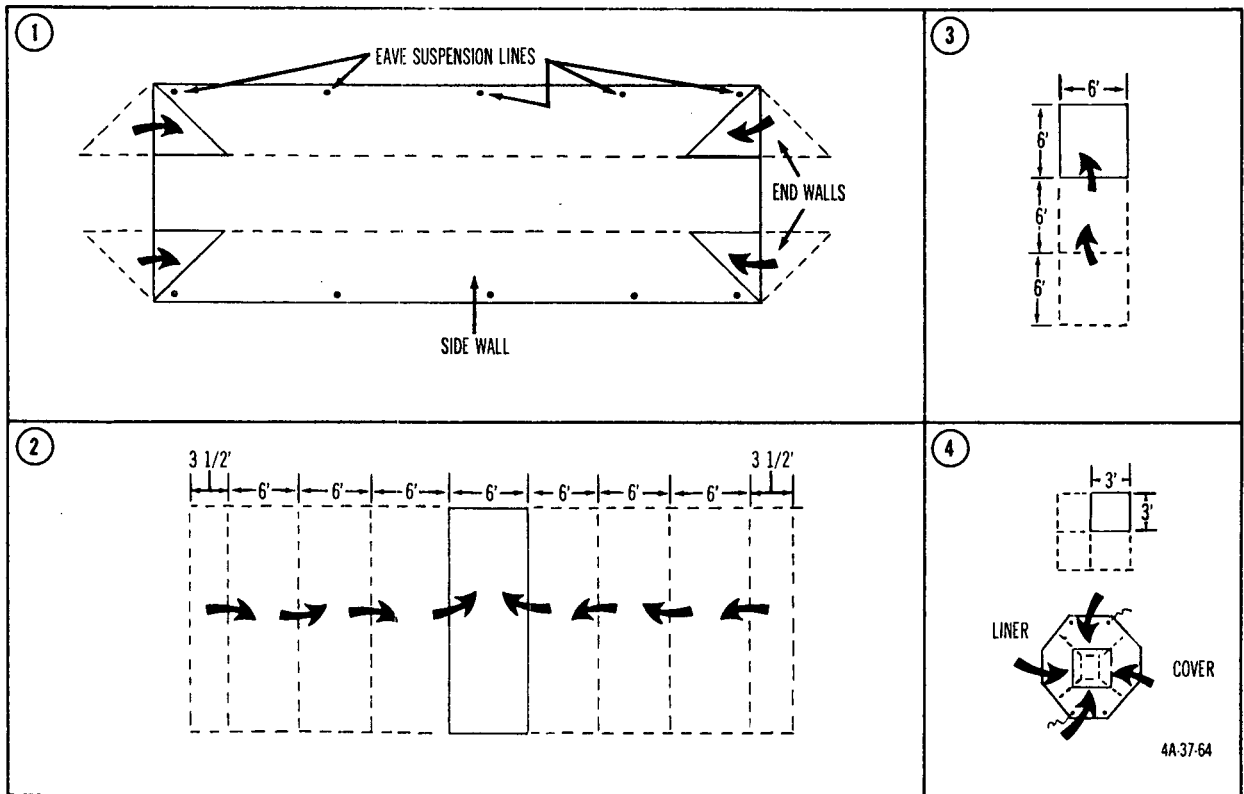

Figure 23. Steps in folding liner of tent, general purpose, large.
(1) *Folding liner* (fig. 23).
- (a) Lay liner out as flat as possible with eave suspension lines rolled and placed on top of liner. Fold side and end walls and sidewall screens under liner; fold triangular ends of end walls over liner roof (1).